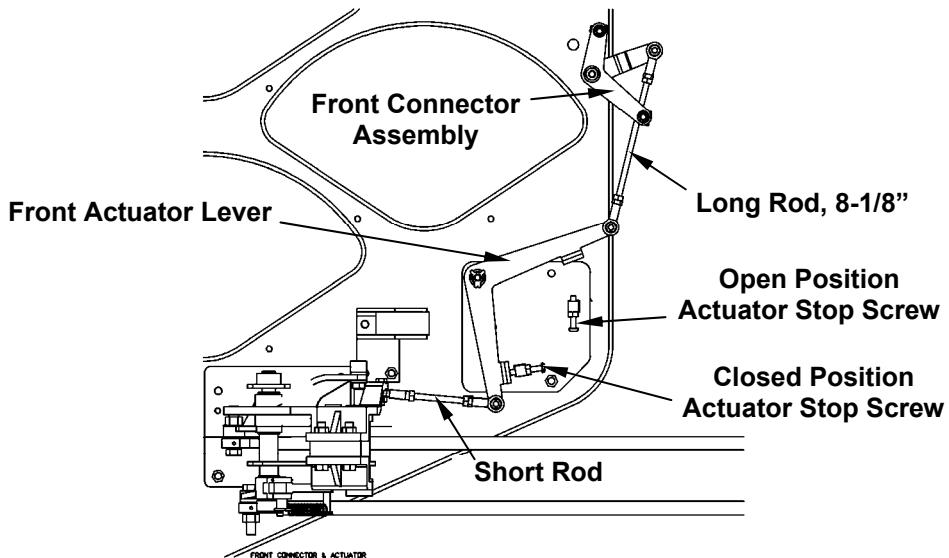
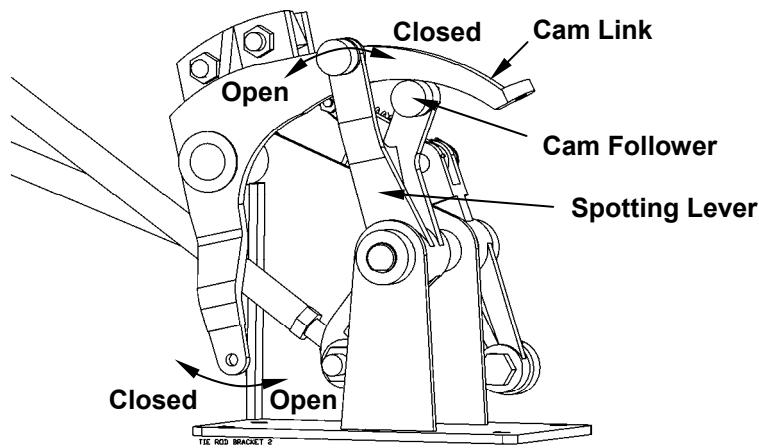

Figure 4.2-20
Figure 4.2-21
4. Loosen the two actuator stop screws (see Figure 4.2-20).
11. Loosen the jam nuts on the short rod (see Figure 4.2-20).
12. Move the spotting lever to the spotting position, which is done by placing the spotting lever in a "fingers open" position (see Figure 4.2-21).
14. With the spotting lever in the fingers open position, adjust the length of the short rod (Figure 4.2-20) so that the cam link (Figure 4.2-21) just makes contact with the cam follower. THE CAM FOLLOWER MUST STILL BE ABLE TO TURN FREELY. Tighten the jam nuts on the short rod.